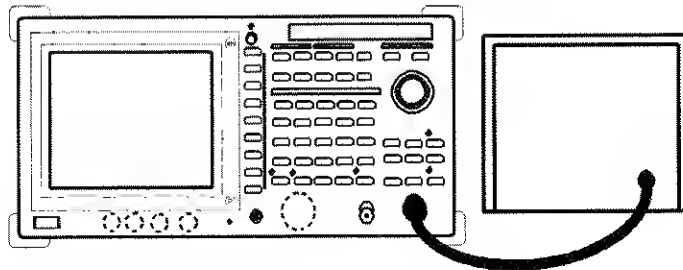

Figure 2-132 Setup for Measuring AM Signal
1. Connect the unit under test as shown in Figure 2-132.